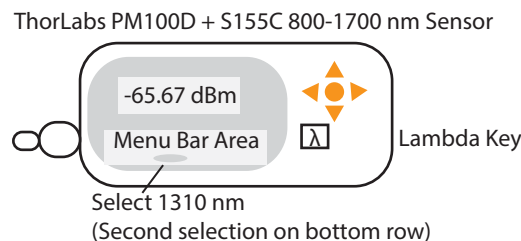

Figure 3-50. Power Meter QP 1310 nm Configuration
- a. On Front Panel select **Lambda** button as shown in Figure 3-50.
- c. On PM100D Meter select **OK** to choose 1310 nm selection, as shown in Figure 3-50.